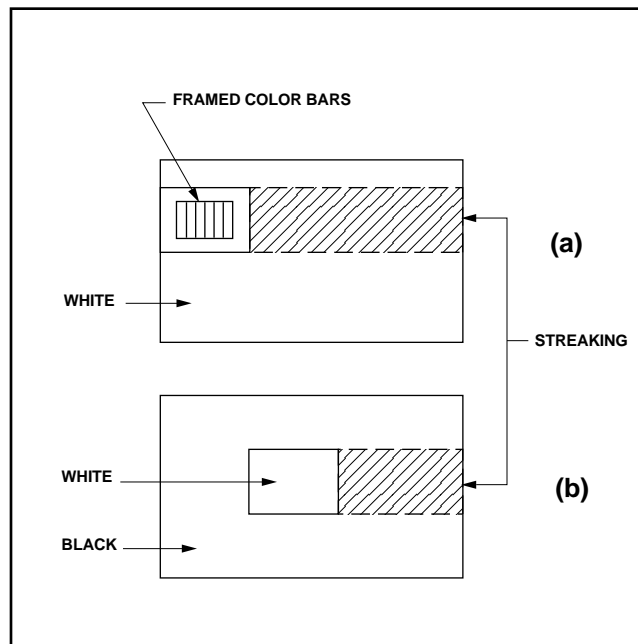

Figure 1
- the white area to the right of framed color bars as shown in Figure 1 (a), or
- the black area to the right of a white window as shown in Figure 1 (b).